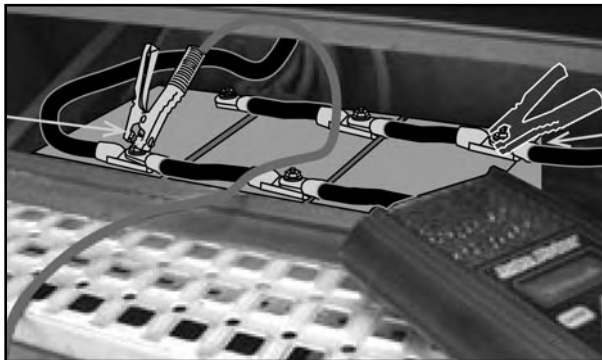

Figure 2. Connecting to Battery Bank
5. Connect the large leads (Figure 2):